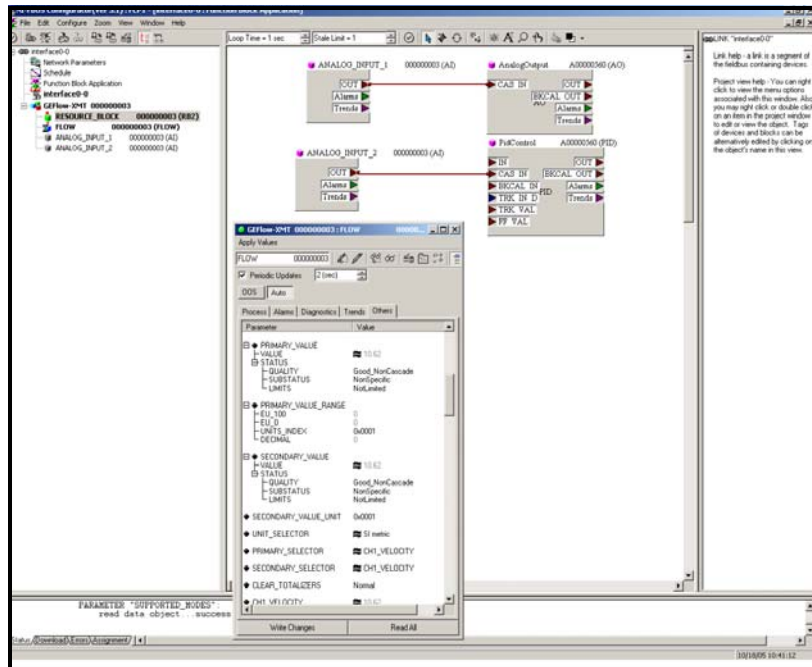

Figure 39: Configuration Utility Setup Example
Figure 39 below shows the Configuration Utility with a flowmeter on the network (GE Flow-XMT).
1. Double click on the AI block for which you wish to set the units (ANALOG_INPUT_1 or ANALOG_INPUT_2 in the tree under GEFLOW-XMT; see Figure 39 on page 114).
1. Double click on the FLOW transducer block (in the tree under GEFLOW-XMT; see Figure 39 on page 114).